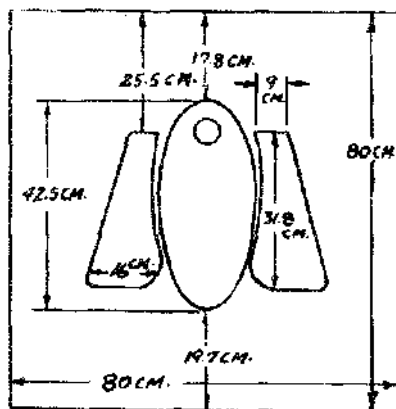

FIGURE 6 PRIVY SLAB OUTLINE
1. A wooden form for shaping, the slab (see Figure 6).
Make a wooden platform 90cm x 90cm (35 1/2" x 35 1/2") out of 2.5cm (1") thick planks. This is the base of the form. The finished slab will measure 80cm x 80cm (31 1/2" x 31 1/2"). See Figure 6.
Cut out of the platform a hole 10cm x 33cm (4" x 13") for the hooks of the bowl core to extend into. The back of the hole should be 28cm (11") from the back of the platform. To determine the location of this hole, draw the outline of the bottom of the bowl on the platform, with the back of the bowl outline 23cm (9") from the back of the platform. (This is 17.8cm from the edge of the slab, as shown in Figure 6.) The back of the hole should be 28cm (11") from the back of the platform.